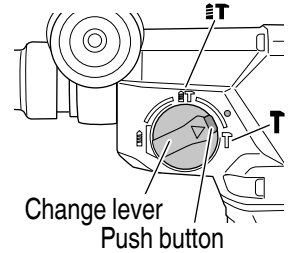

Fig. 27
- (1) Mount the bull point or cold chisel.
- (2) Press the push button and set the change lever to middle of **T** mark and **T** mark (Fig. 27).